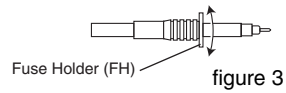

figure 3
Completely unscrew the fuse holder (FH). See figure 3 (page 2)